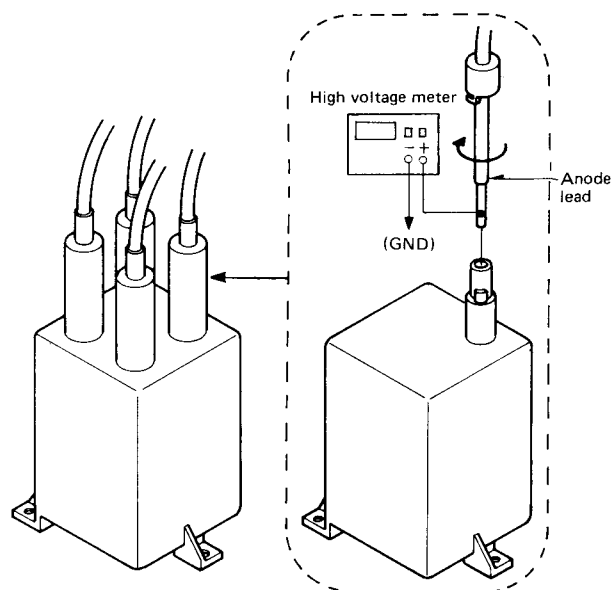

Fig. 17
2. Connect the high voltage meter to anode lead of the distributor as shown in Fig. 17.